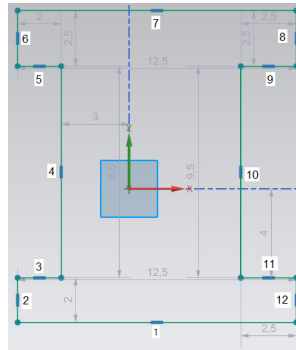

Figure 3-24 The outer loop of the profile and the sequence in which lines have to be drawn
2. Draw the sketch around the origin following the sequence shown in Figure 3-24. The sketch is unsymmetrical at this stage. But after adding the constraints and modifying the dimensions, it will become symmetrical. You can use the help lines to draw the sketch. For your reference, the sequence in which the lines are needed to be drawn in the sketch are indicated by numbers.